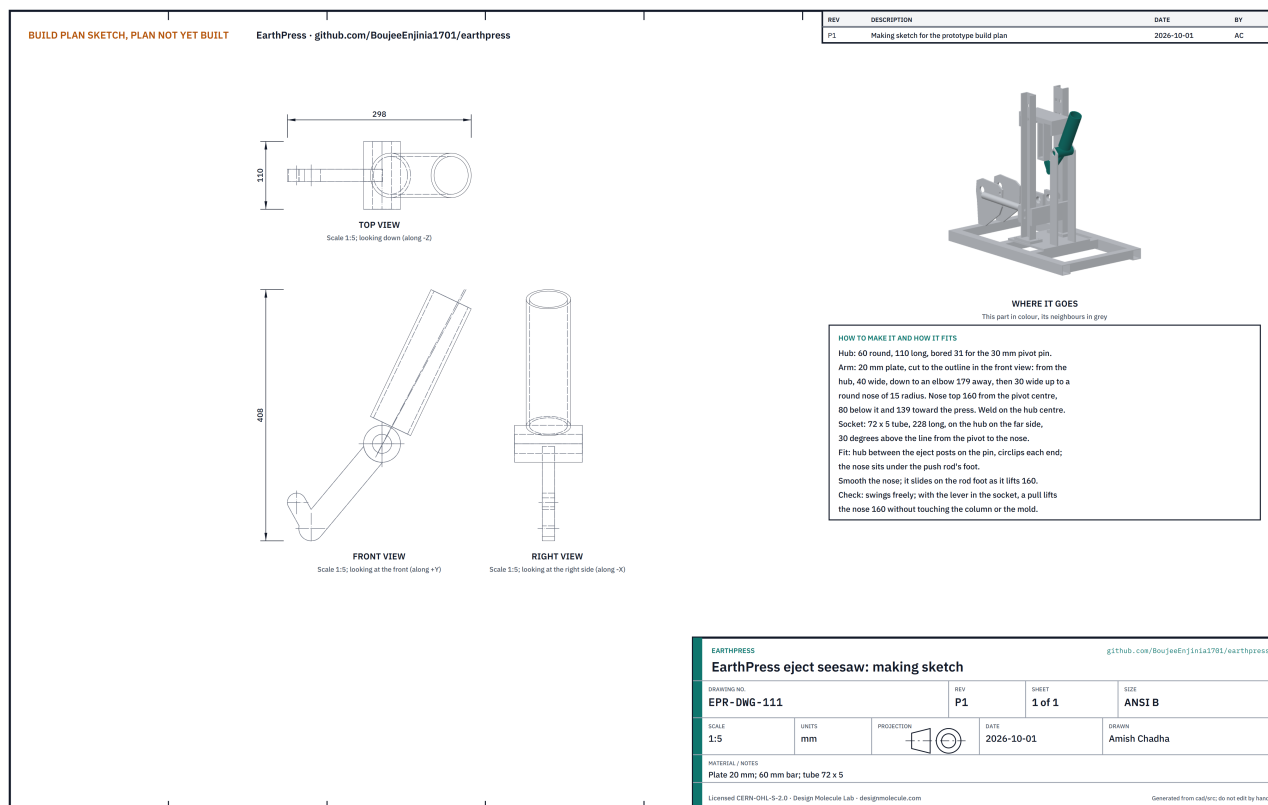

Figure 19. Eject seesaw making sketch (EPR-DWG-111).
2. Cut the arm from 20 mm plate to the outline in Figure 19: 40 wide from the hub down to the elbow, then 30 wide up to a round nose of 15 radius. The top of the nose is 160 from the hub centre, 80 below it and 139 toward the press.